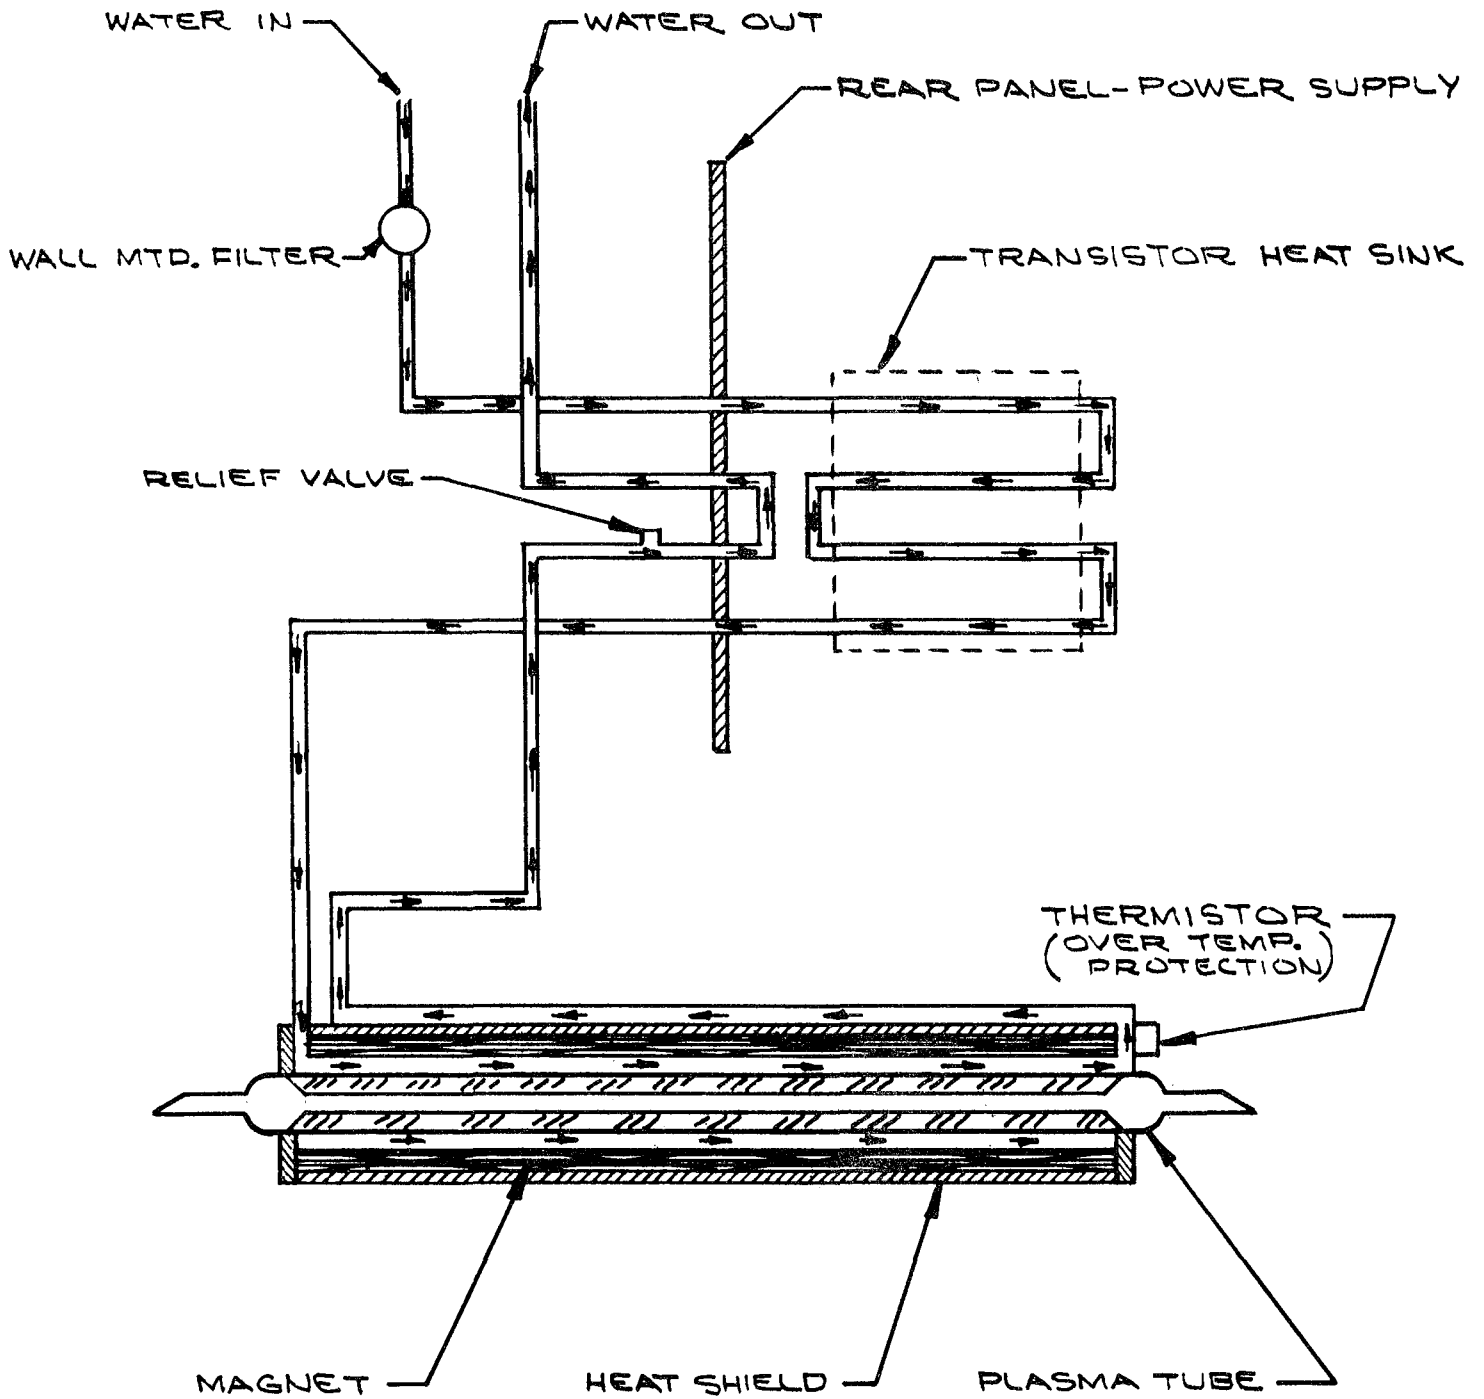

FIG. 6.3
6.3 Cooling System (See Fig. 6.3)